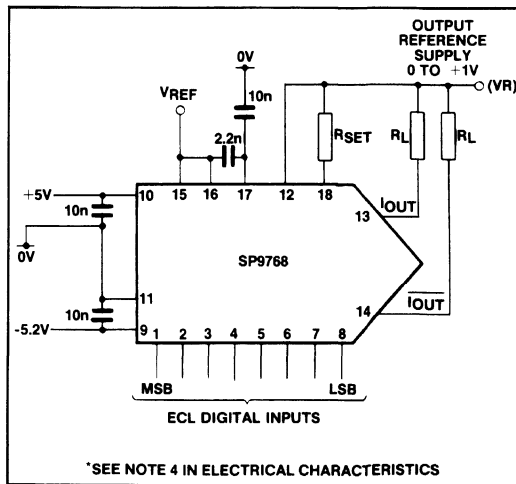

Fig.4 Voltage output referred to a positive voltage
- The output positive compliance can be increased beyond +1.0V at the expense of linearity. See Fig.4 for circuit configuration.
The reference supply is internally compensated; however, to reduce the possibility of instability or noise generation, pin 15 should be decoupled as shown in Fig.4. The current loop technique has been used with a high performance loop amplifier. The current is set by an external resistor as described above. Stabilisation of the loop amplifier is achieved by a single capacitor from pin 17 to ground. Minimum value is 3900pF, although a 10nF chip ceramic is recommended.
Fig.4 shows the method of using the SP9768 with a load resistor not referred to ground, allowing a larger output swing than the conventional connection of Fig.3. Connecting pin 12 and the current setting resistor  $R_{SET}$  to the load reference supply ensures that the scale factor of the output is independent of the load reference.